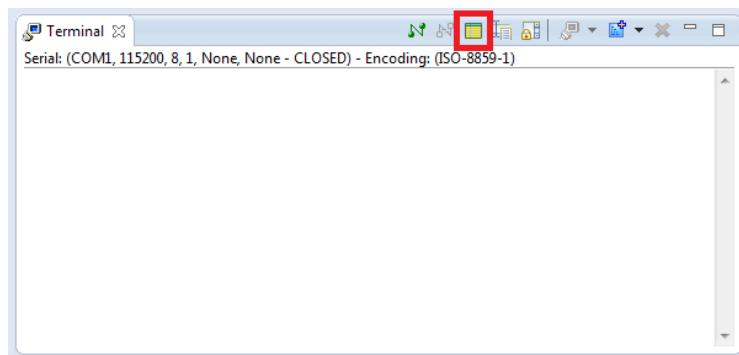

Figure 13-3. ARM DS-5 Serial Terminal
5. We will use the built-in serial terminal available in *ARM DS-5*. Go to “Window > Show View > Other... > Terminal > Terminal” to open *ARM DS-5*’s the built-in serial terminal. You should see the terminal shown in Figure 13-3.